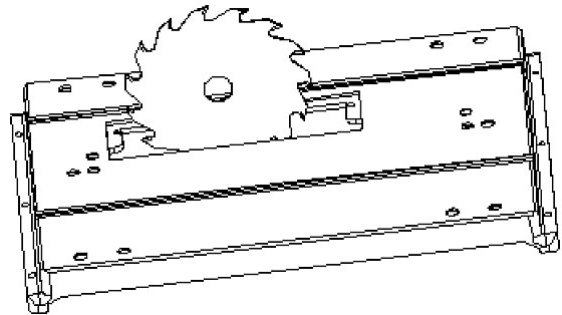

Fig. 21: Installation of the saw blade TKS 200
Step 2: Place the saw blade on the flange and secure it with the screw. Pay attention to the correct direction of the saw blade teeth (Fig.21).